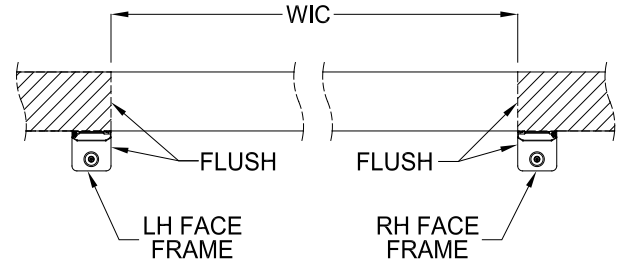

Figure 13: Wall Clip Position
1. Attach the wall clips to the wall through the holes provided. Be sure that the clips are plumb. This is critical for proper gasket seal (Figures 13 & 15).